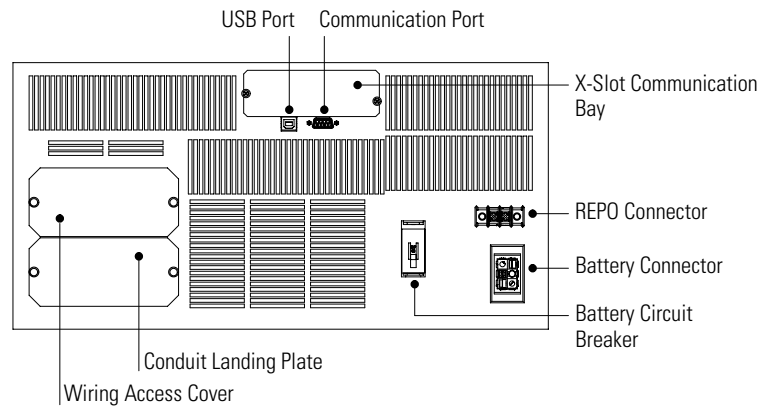

Figure 12. Hardwired UPS Rear Panel
3. Remove the wiring access cover and the conduit landing plate and retain (see Figure 12).